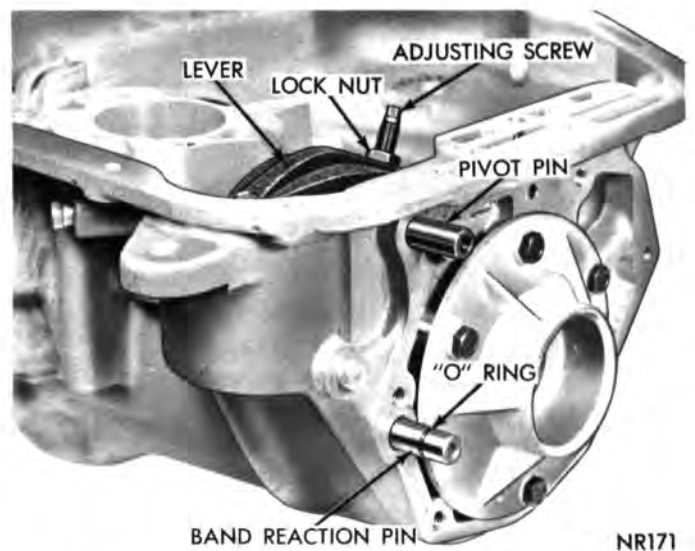

Fig. 98—Double Wrap Band Linkage—Installed (A-904-LA Transmission only)
This transmission has a double-wrap band supported at two points by a band reaction pin in the case and acted upon at one point by the servo lever adjusting screw (Fig. 98 and 99).
- (1) Push band reaction pin (with new "O" ring) into case flush with gasket surface (Fig. 98).